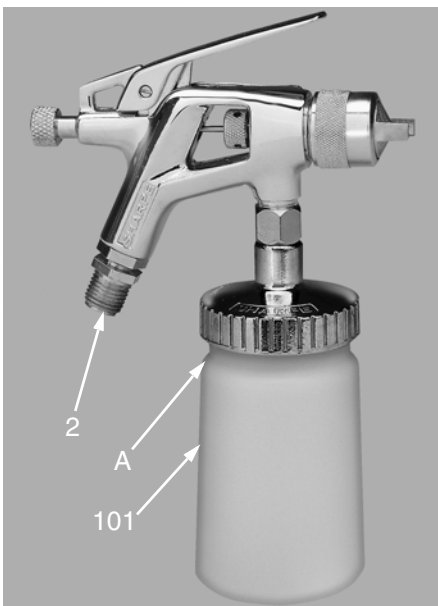
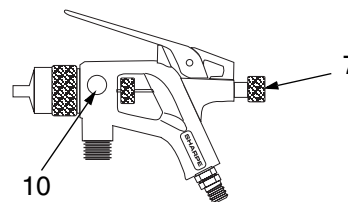

FIG. 1
FIG. 2
1. Fill cup (101) with material. Do not fill past cup "shoulder" (A). See FIG. 1.
2. Screw cup (101) onto lid securely.
4. Adjust the pattern size and shape with the spray width adjustment knob (10). See FIG. 2. Turn knob clockwise to reduce pattern size and counterclockwise to increase it.